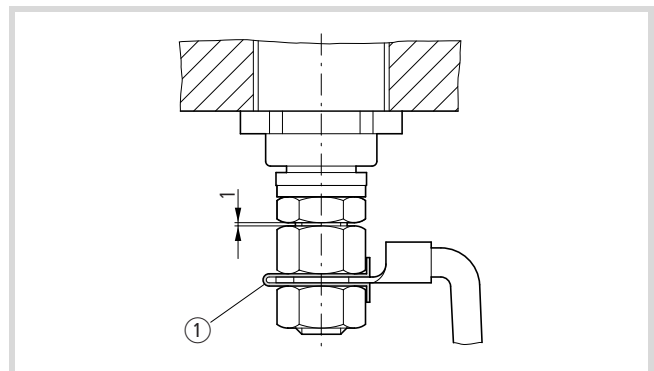

Figure 23: Securing the fastening nut
- ▶ Use a retaining plate ① (→ Fig. 23) to prevent the fastening nut from working loose.